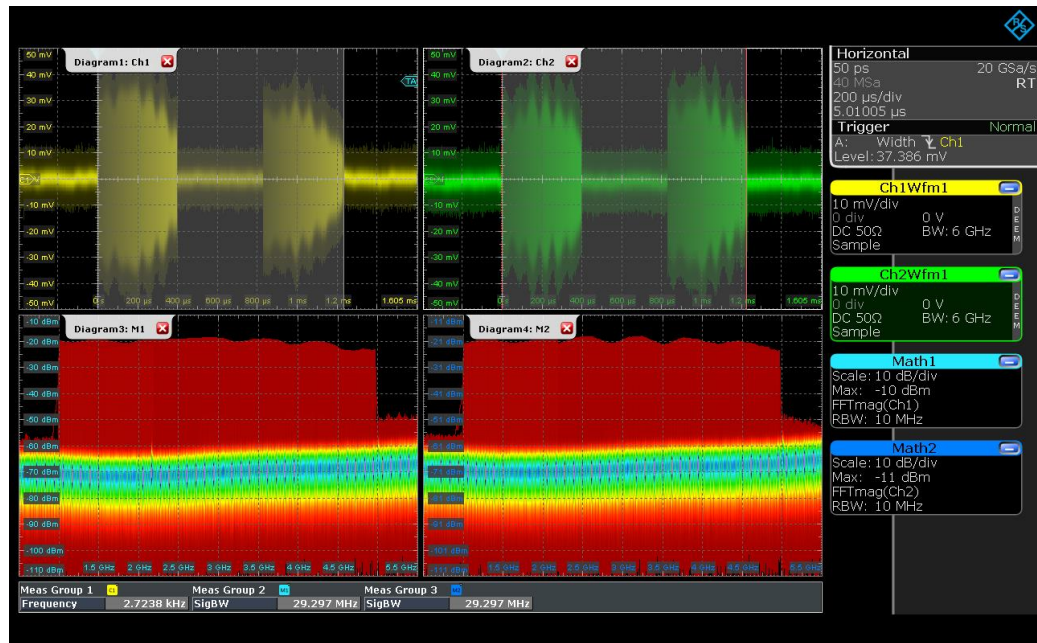

Fig. 3-2: Frequency domain measurement for RX 1 and RX 2 (Diagram3 and 4)
- The result of a ~4GHz bandwidth signal is shown in Fig. 3-2.